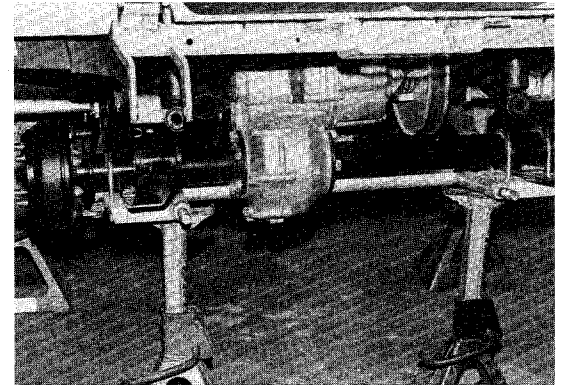

Figure 11-12
11. Raise rear of car to permit leaf springs to clear shackles (**Figure 11-12**).